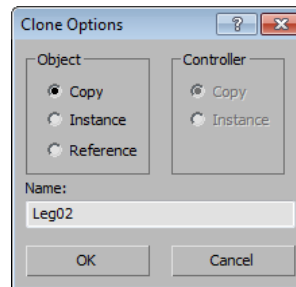

Figure 5-6 The *Clone Options* dialog box
3. In this dialog box, enter **Leg02** in the **Name** text box and make sure the **Copy** radio button is selected, as shown in Figure 5-6. Next, choose the **OK** button; *Leg02* is created over *Leg01*.